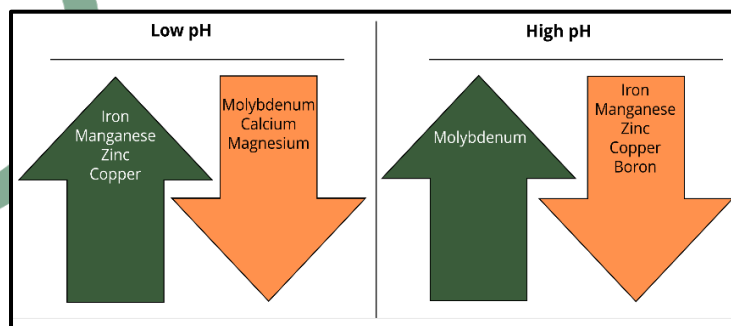

Figure 1. Effects of low and high pH on plant nutrient uptake.
- pH directly affects nutrient solubility and uptake by plants (**Figure 1**) and can impact the performance and lifespan of irrigation infrastructure (**Figure 2**).